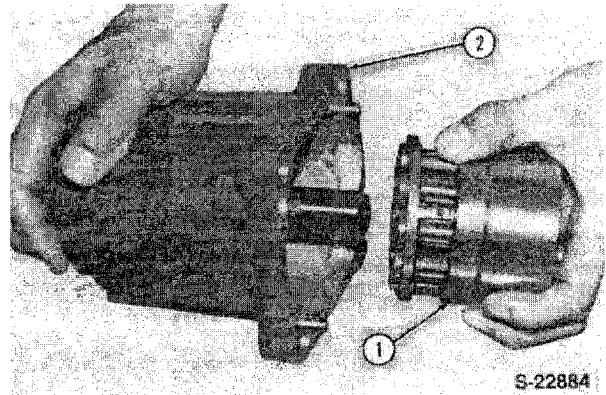

Figure 65
6. Position the assembled motor cylinder block onto the output shaft as shown, Figure 65.